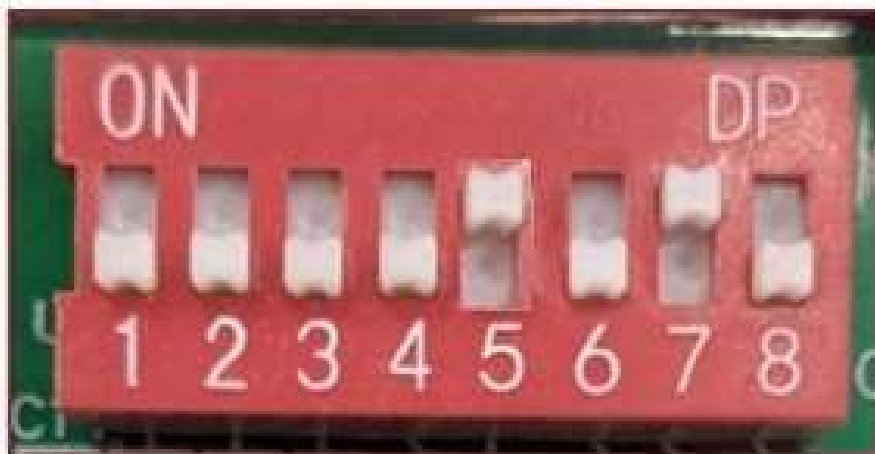

Fig 3
- o Dip Switch #5 is moved to the ON position (fig 3)